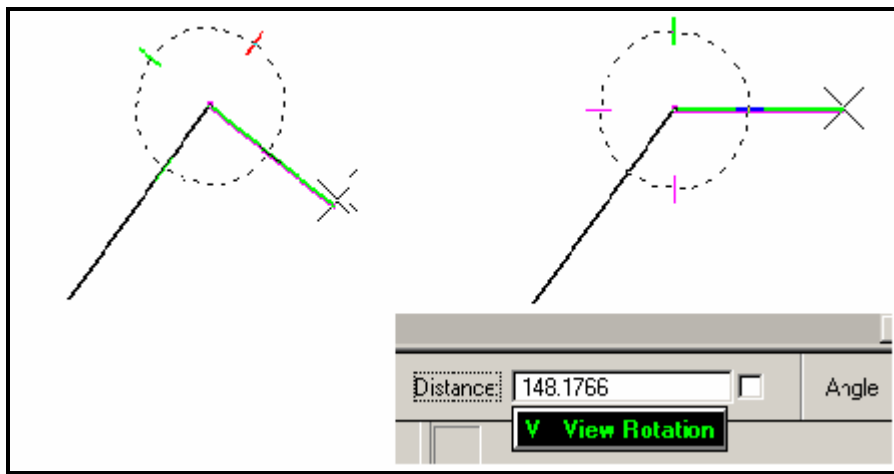

Figure 9-19: Rotate AccuDraw to the View
- ♪ You have to make sure that it is always rotated back to horizontal between every segment: type **V** with active **AccuDraw** to rotate the **Compass** to the view (Figure 9-19).